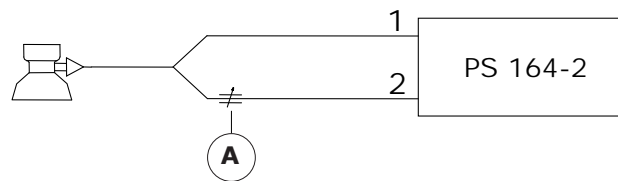

Fig. 4.4 - Diagram to use only one gas
- A valve integrated in the circuit if the gas used is the welding gas (see Fig.4.4). This valve (Fig.4.4 - Pos A) is adjusted manually.